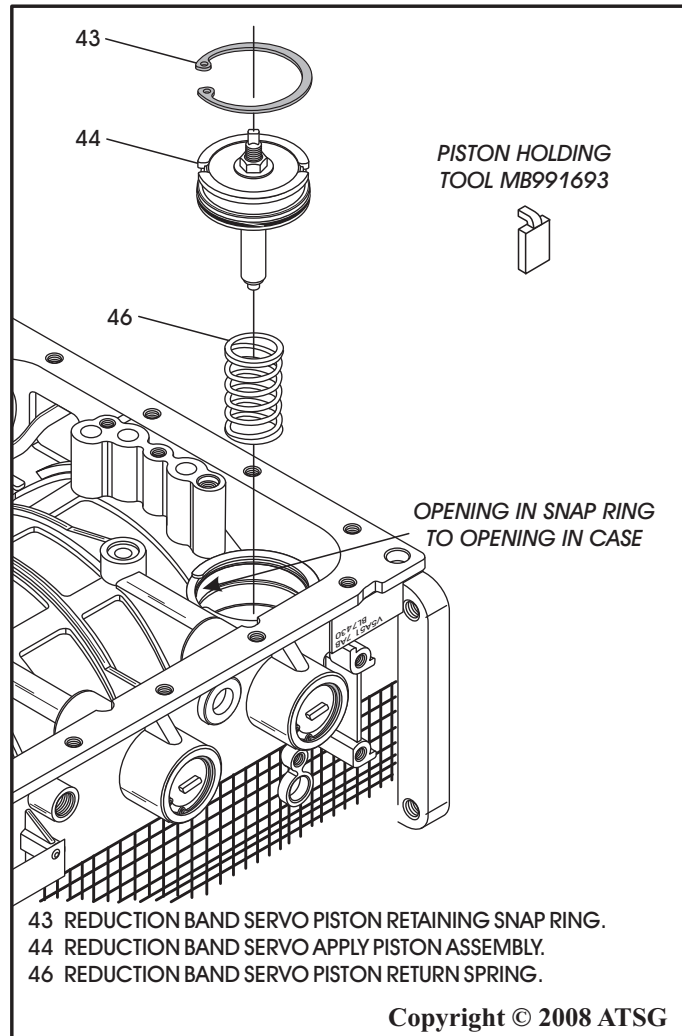

Figure 214
68. Install the reduction servo return spring into case, as shown in Figure 214.
69. Install pre-assembled reduction servo piston and seal assembly, as shown in Figure 214, compress the spring and install snap ring, with flat side facing down.
Note: Place the cavity in the piston and the opening in the snap ring, to opening in case as shown in Figure 214.
Note: Mitsubishi supplies a special tool to hold the piston from turning during the adjustment process, as shown in Figure 214. A screwdriver, bent just right and cut off, will serve the same purpose.